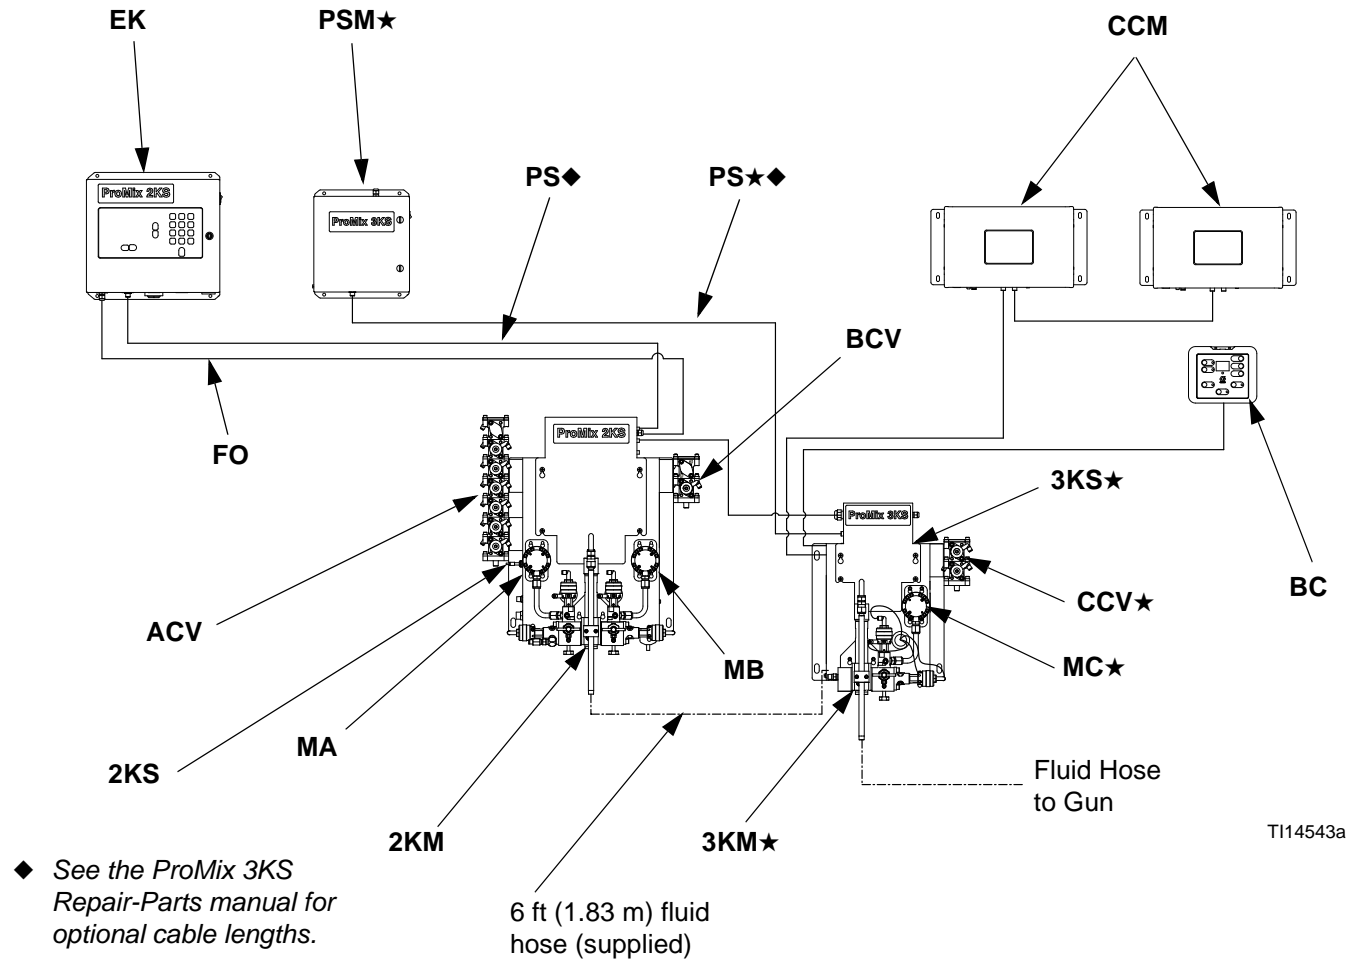

FIG. 2. Manual System Shown, with G3000 Meters, Booth Control, and Color/Catalyst/Component C Change
See FIG. 2 and Table 1 for the system components. Components marked with a star (★) are available as part of the ProMix 3KS Kit. All other components are part of the ProMix 2KS System or are available as accessories.
- FIG. 2, page 8, shows the basic components of a ProMix 3KS system. Contact your Graco distributor for actual system designs.
- **Air line filter:** a 10 micron or better air filter is recommended to filter oil and water out of the air supply and help avoid paint contamination and clogged solenoids. See FIG. 2.